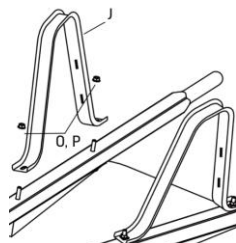

Fig. 3
5. Make sure the holes in the leg (J) are facing the back of the tray (Fig. 3).
6. Place the leg over the bolts and loosely attach to the handle with lock washers (O) and nuts (P) (Fig. 3).